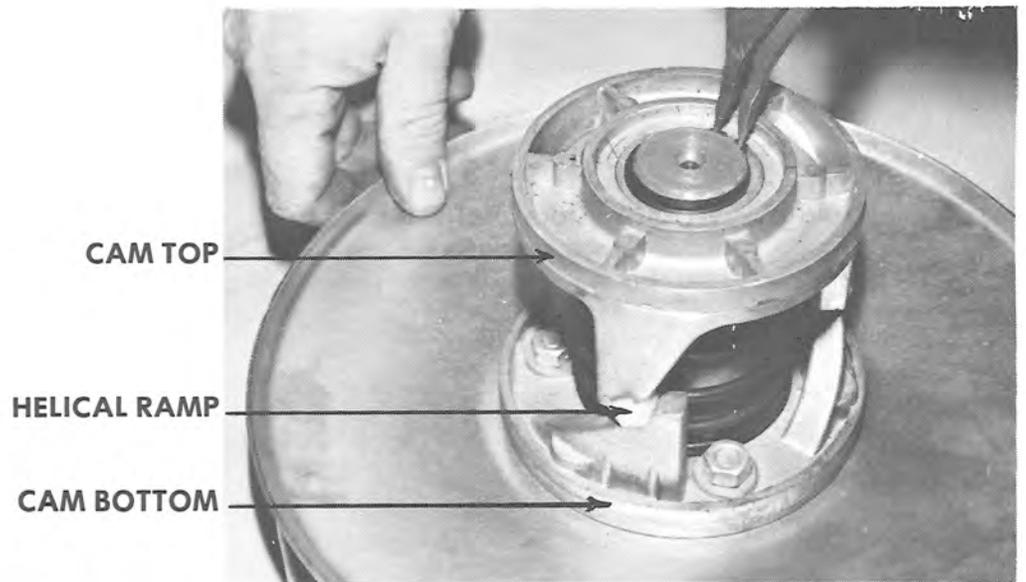

FIG. 4-13
3. Remove driven unit from chaincase (tapping shaft lightly with plastic mallet). Remove snap ring and washer from cam top and slide off shaft. (See Figures 4-13, 4-14, 4-15.)
(See Fig. 4-13)